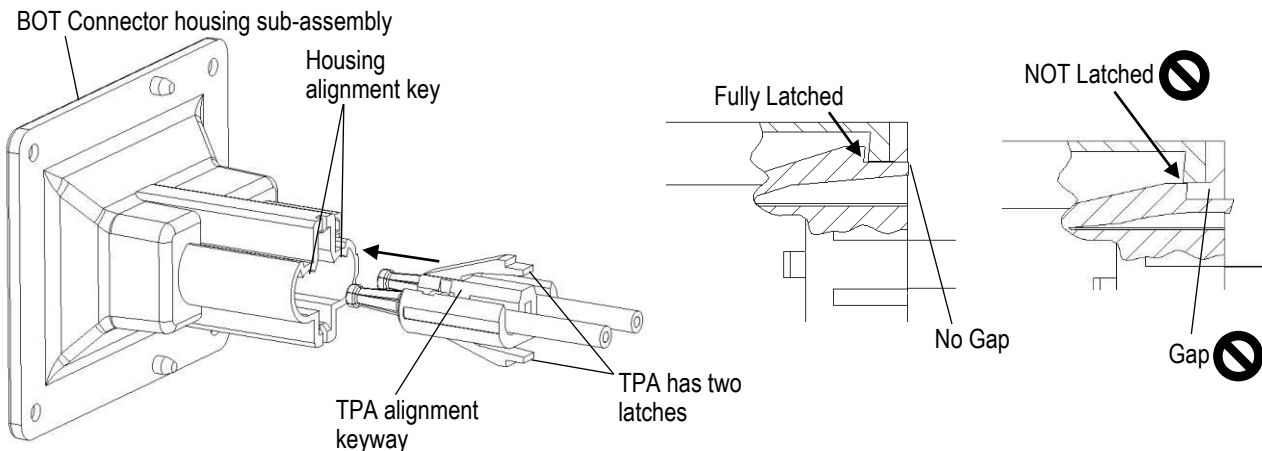

Figure 5
- A. With the power contacts assembled into the TPA, this assembly can be latched into the AMR BOT/Charger connector housing sub-assembly. Housing has a TPA alignment key, which only allows the TPA assembly to be inserted one direction. TPA assembly inserts into the housing with the mating end of the power contacts leading. TPA assembly is inserted into the housing until both TPA latches fully engage the housing latch ledge. Care must be taken to ensure **both** TPA latches are latched. AMR BOT and Charger have same TPA assembly method. See figure 5.